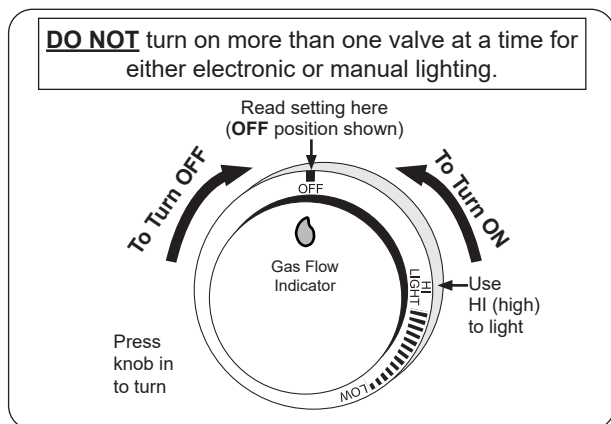

Fig. 37-1 Control knob
For your convenience and safety, when the control knob is turned to the ON position, the gas flow indicator will change from blue to red. (Red indicates gas flow.) See Fig. 37-1.
5. Press and hold the igniter switch. Ensure the igniter is sparking (it will create a “clicking” sound), then, turn it counterclockwise to the **HI LIGHT** position (Fig. 37-1). Once the burner lights, release the control knob and igniter switch.